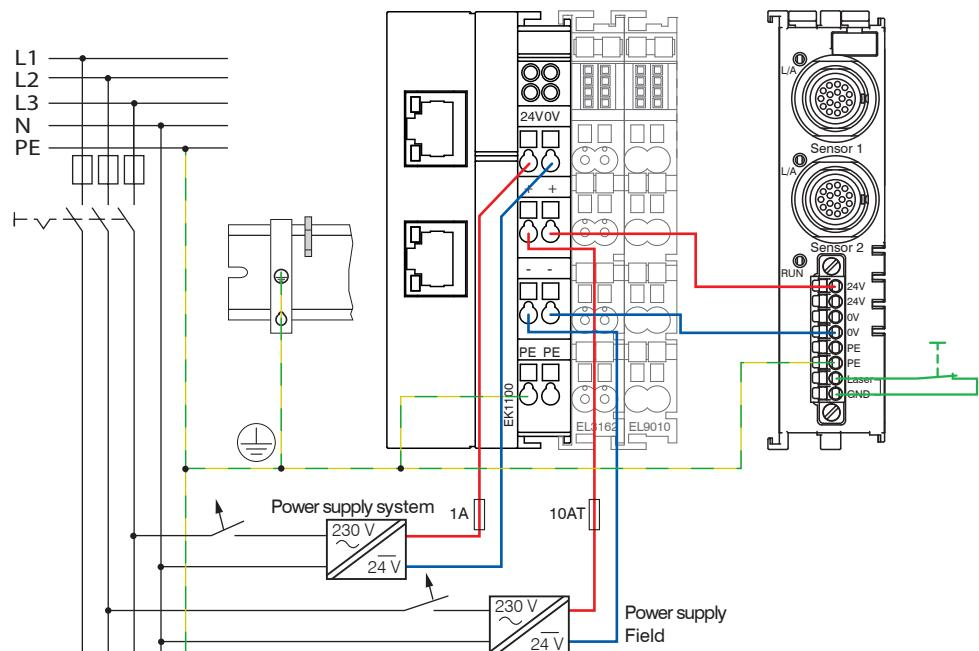

Fig. 3 Example circuit for the system and field supply
- Connect the Laser and GND inputs to the RS422 extension terminal in order to switch on the laser beam of the connected sensors, see Fig. 3.